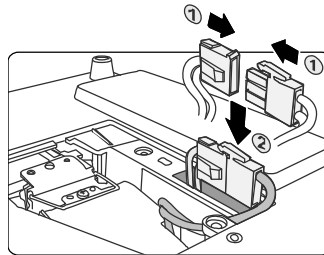

Figure 5. Reconnecting Lamp Assembly.
8. Reconnect the lamp connector and place it back into its slot to be flush with the projector (see Figure 5).